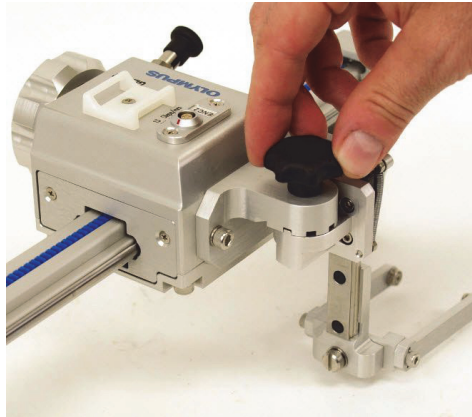

Figure 2-21 Tightening the knob in the new position
4. Tighten the knob to lock the probe holder (see Figure 2-21 on page 40).